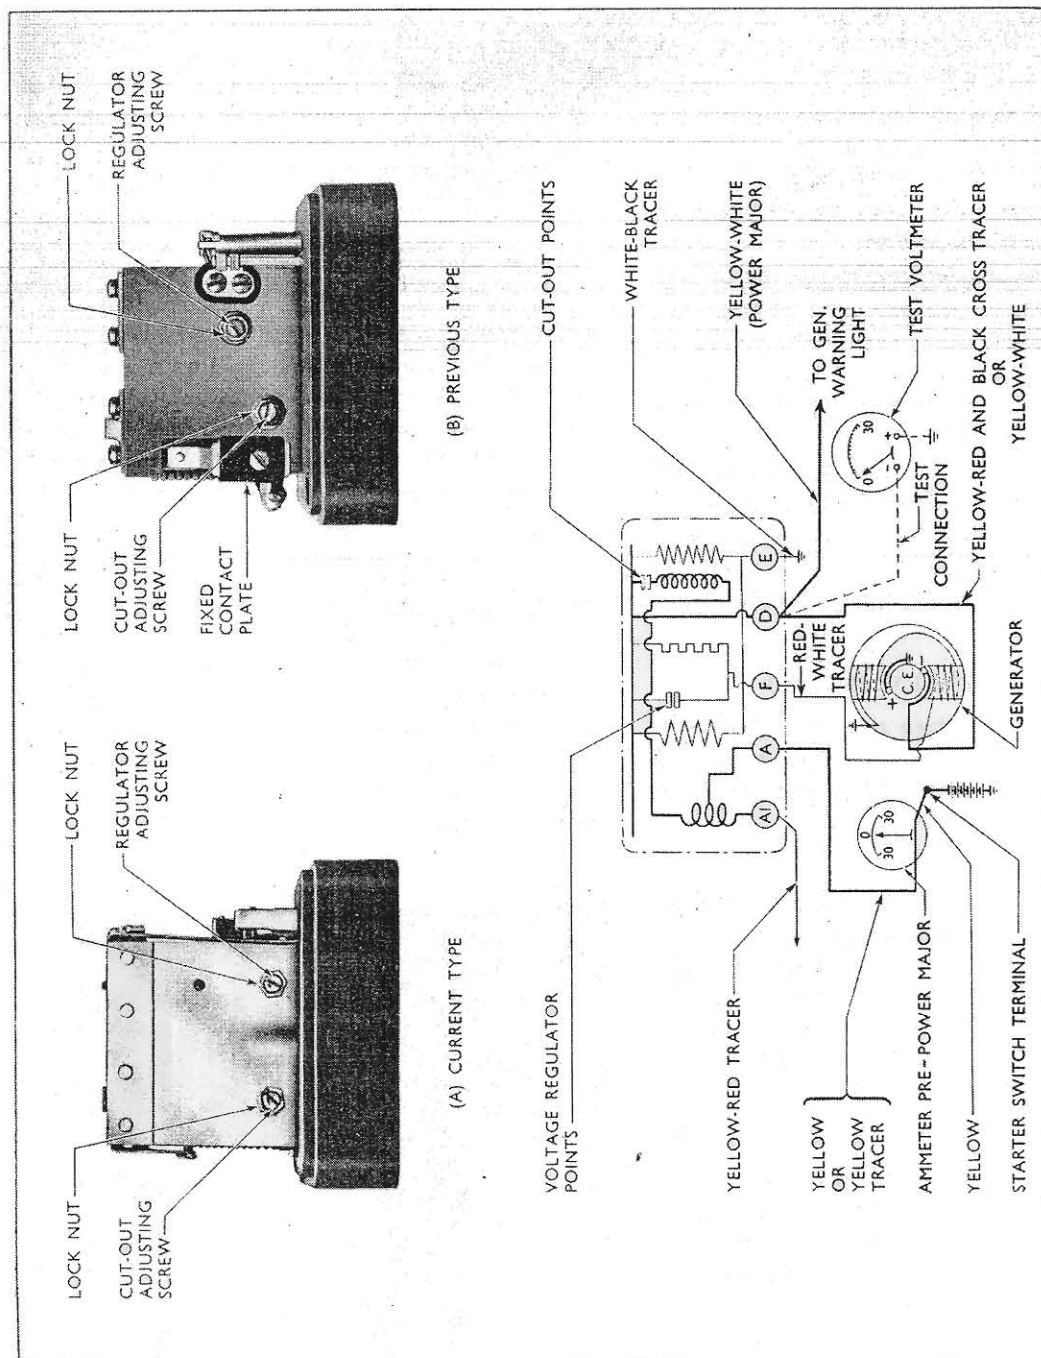

Fig. 6
1. Insulate the cut-out points with a thin strip of mica or withdraw the cables from the terminals marked "A" and "A1" (see Fig. 6) and join them together.
Shut off the engine and remove the cover. Slacken the lock-nut of the regulator adjusting screw (see Fig. 6), and turn the screw in a clockwise direction to raise the setting or in an anti-clockwise direction to lower the setting. Turn the screw only a fraction of a turn at a time and then tighten the locknut. Again run up the engine and repeat as above until the correct setting is obtained.
1. Remove the screws securing the plate carrying the fixed contact to render the regulator contacts accessible for cleaning. (See "B" Fig. 6.)